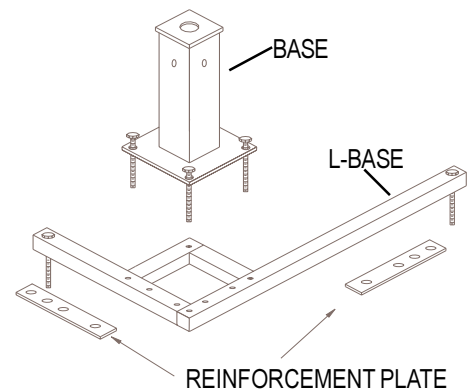

FIGURE 3.
3. Align the base with the L-base. See figure 3.
12. Reinstall the assembly and align the mounting holes. Insert six 5/16" X 2" bolts. If necessary, replace the 2" bolts with the 3" bolts provided. See figure 3.